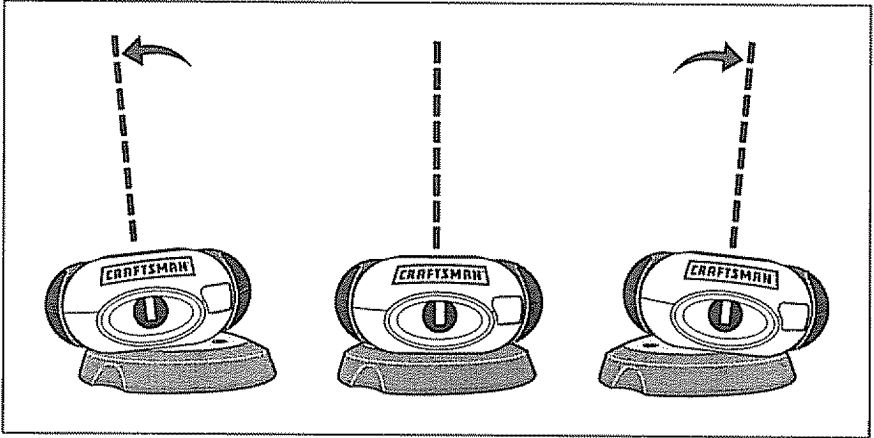

Fig. 7
### The All-Position Leveling Base (See Fig. 7)
**NOTE:** To use the level on two adjacent surfaces it must be plumb (vertical) on the surface to which it is mounted. Fig. 7 illustrates how the level can be adjusted on the base.